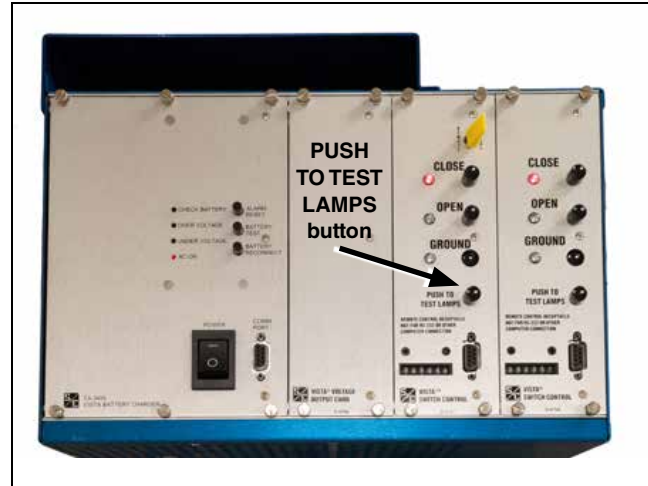

Figure 131. The PUSH TO TEST LAMPS button on the control board.
STEP 2. Verify all LED displays are functional by pressing the PUSH TO TEST LAMPS button on each control board. See Figure 131.
STEP 3. Perform the following operations using the control board buttons as shown in Figure 131: